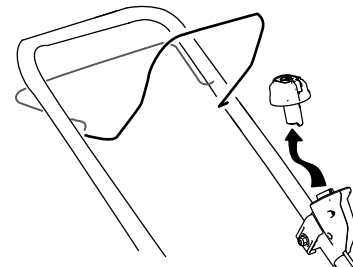

Figure 15
1. Remove the electric-start button (Figure 15).